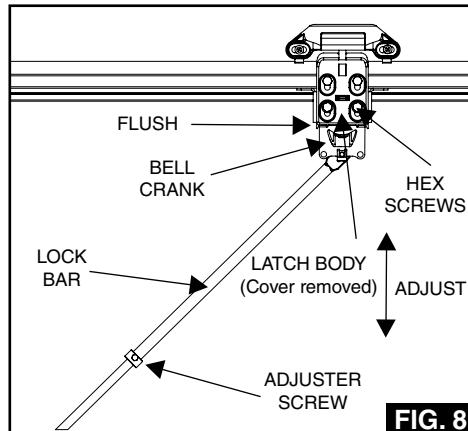

FIG. 8
- prise off latch body cover and loosen off 4 Hex HD screws securing latch body to door (See Fig 8).
- Ensure bell crank is flush with latch body (See Fig 8) and re-tighten lock bar adjuster screw.